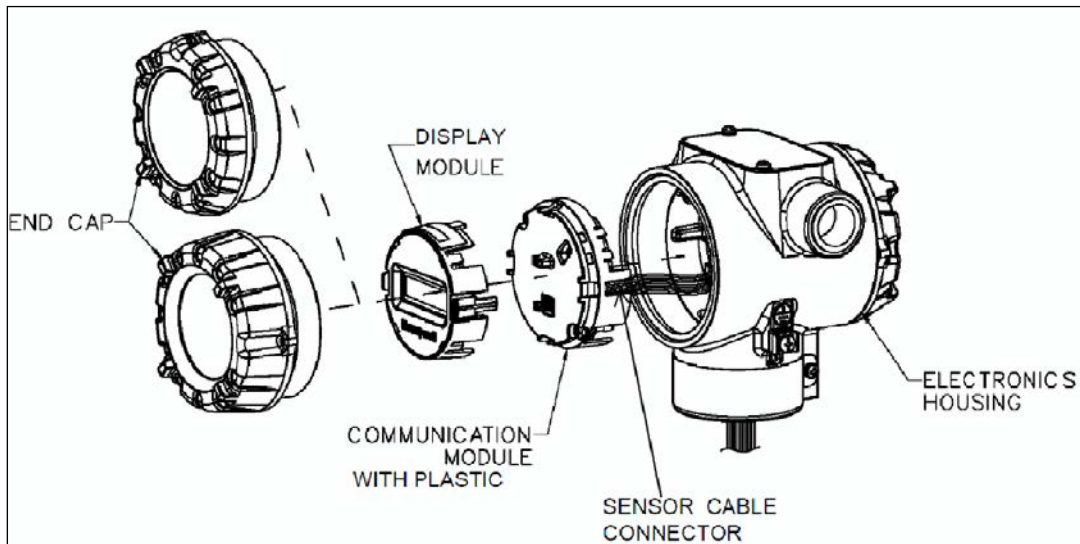

Figure 24 – Disassembly for Meter Body Replacement
4. Refer to Figure 24. Loosen the end cap lock, and unscrew the end cap from the electronics side of the transmitter housing.